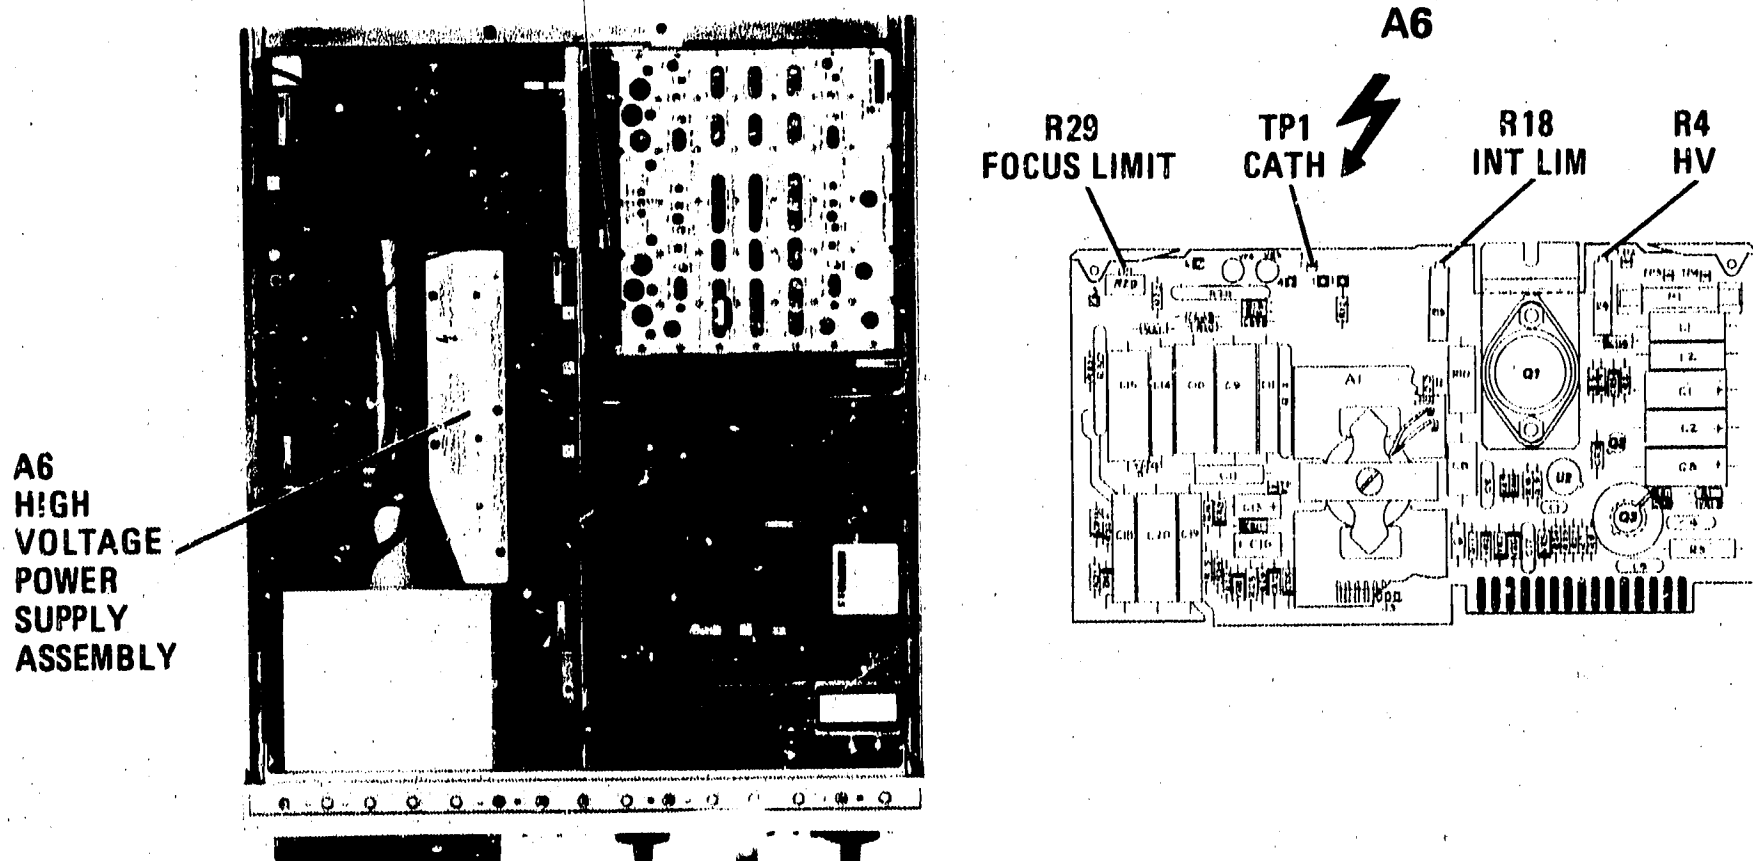

Figure 5-4. High Voltage Power Supply and Oscillator Driver Adjustment Locations
6. Adjust A6R4 HV (Figure 5-4) for a reading equal to calibration factor (calculated in step 4c), times voltage recorded in step 2.
10. Refer to Z Axis Adjustments and (1) readjust focus limit and astigmatism and (2) adjust minimum intensity and intensity gain.